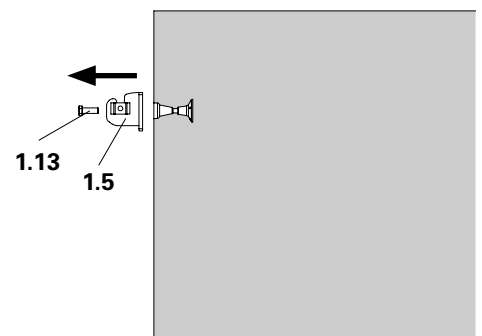

Fig. C3.09
- Remove the anchors and close the anchor holes, e.g. with PERI Concreting Cones, see Section A5. (Fig. C3.09)